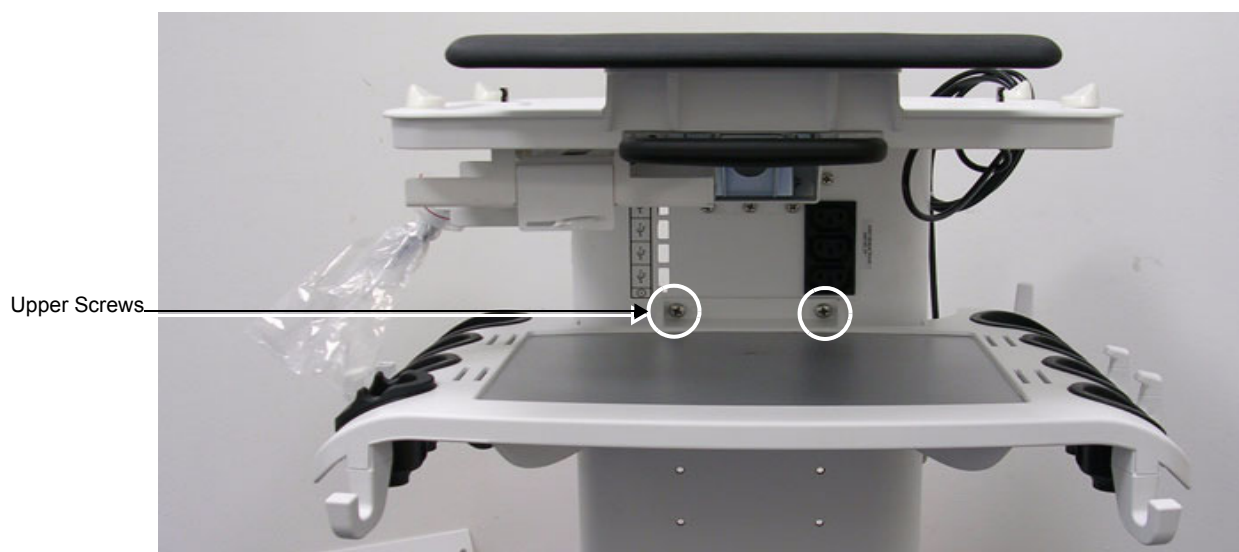

Figure 8-106 Probe Shelf Assembly - Upper Securing Screws
- 3) **While supporting the shelf with one hand**, loosen and remove the two upper screws (one on either side - see Figure 8-106); remove the shelf.